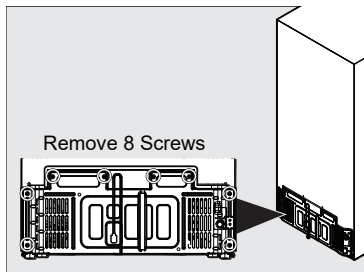

Figure 10
- Remove 8 screws from access cover located at the bottom rear outside of the unit. Set aside. See Figure 10.